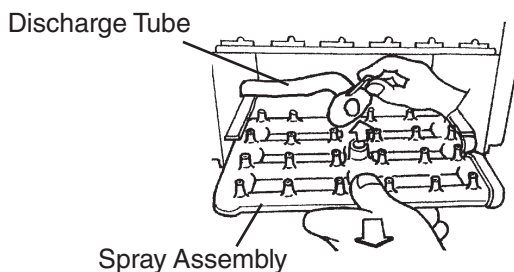

**Fig. 35**
- 5) Spread out the tabs to unlock the water tank, then slide it out. See Fig. 35.